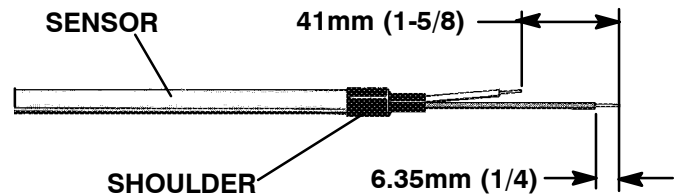

Figure 4-19. Sensor
- Cut one wire of existing cable 41 mm (1-5/8") shorter than the other wire. (See Figure 4-19.)